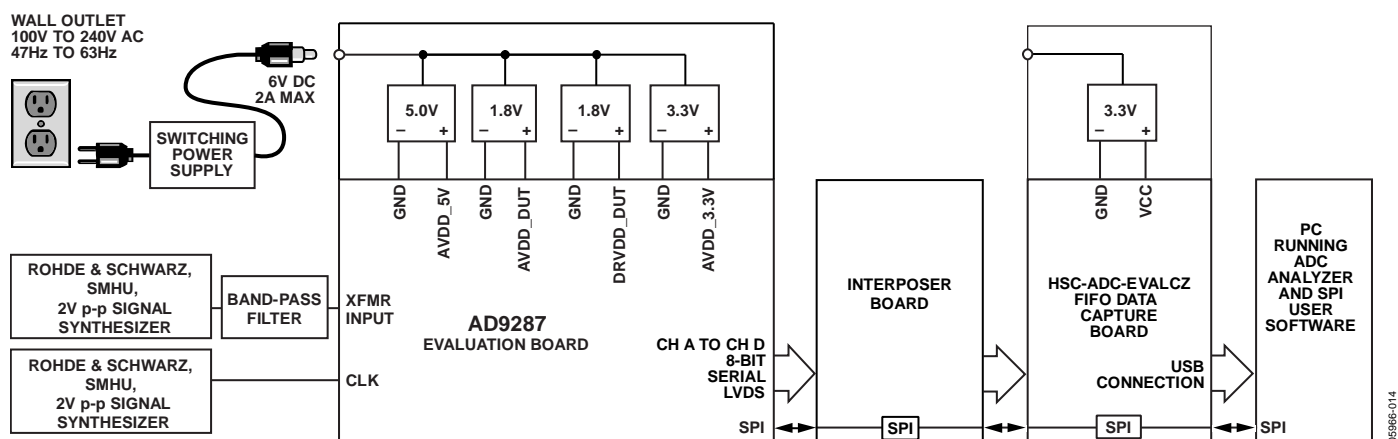

Figure 60. Evaluation Board Connection
The AD9287 evaluation board provides all of the support circuitry required to operate the ADC in its various modes and configurations. The converter can be driven differentially using a transformer (default) or an AD8332 driver. The ADC can also be driven in a single-ended fashion. Separate power pins are provided to isolate the DUT from the drive circuitry of the AD8332. Each input configuration can be selected by changing the connection of various jumpers (see Figure 62 to Figure 66). Figure 60 shows the typical bench characterization setup used to evaluate the ac performance of the AD9287. It is critical that the signal sources used for the analog input and clock have very low phase noise ( $<1$  ps rms jitter) to realize the optimum performance of the converter. Proper filtering of the analog input signal to remove harmonics and lower the integrated or broadband noise at the input is also necessary to achieve the specified noise performance.
- **D + x, D - x:** If an alternative data capture method to the setup shown in Figure 60 is used, optional receiver terminations, R206 to R211, can be installed next to the high speed back-plane connector.